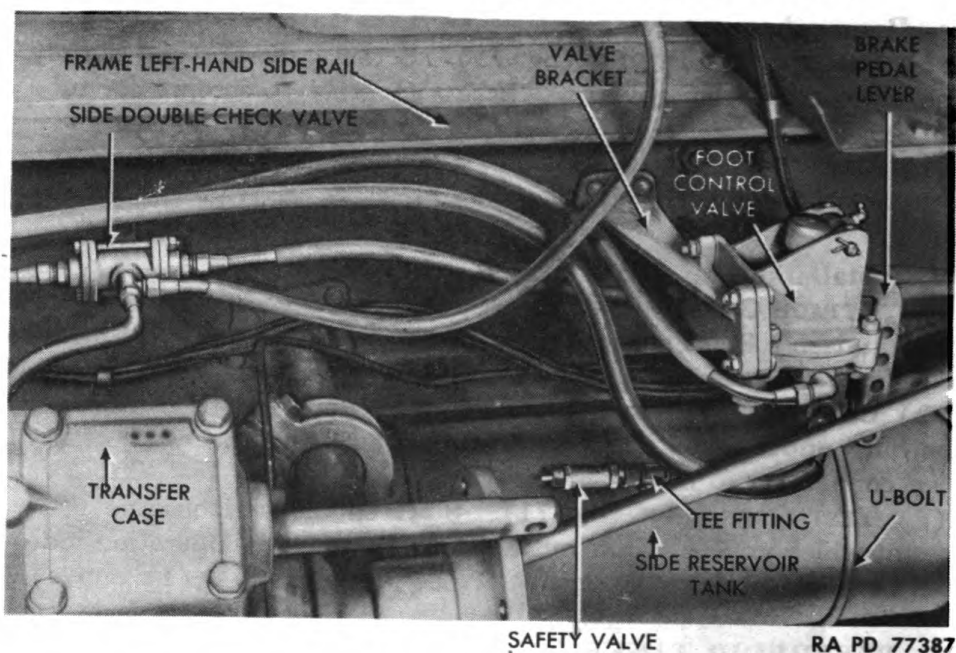
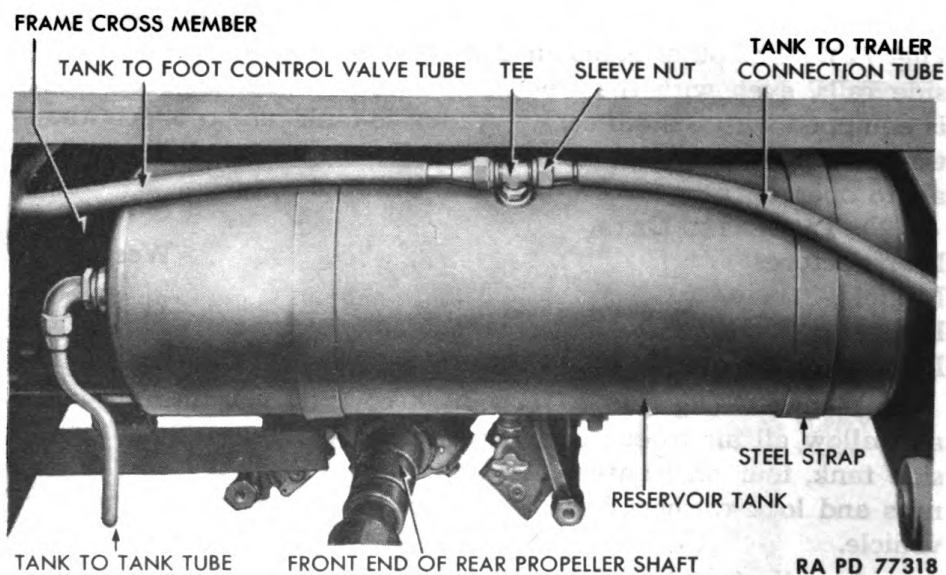

Figure 72 — Air Pressure System Valves and Side Reservoir Tanks
Figure 73 — Rear Air Reservoir Tank Installed
(1) **DESCRIPTION**. Two reservoir tanks are provided. One is located below the left-hand frame side rail adjacent to the fuel tank (fig. 72). The other is installed transversely between the two frame side rails, even with the front of the rear wheels (fig. 73). Each is equipped with a drain cock. A tank-to-tank tube connects the two tanks. Their function is to store a sufficient quantity of compressed air to operate the service brakes and air accessories.
(2) TABULATED DATA.
b. Removal (fig. 73). Open drain cock on lower center of tank and allow all air to escape. Disconnect all tubing (three tubes on side tank, four on transverse tank) from fittings on tank. Remove nuts and lock washers from U-bolts or steel straps. Lift tank from vehicle.
c. Installation (fig. 73). Place tank in position on frame of vehicle. Place U-bolts or steel straps in position around tank and install the lock washers and nuts. Connect tubing (three tubes on side tank, four on transverse tank) to fittings on tank.
(1) **DESCRIPTION** (fig. 72). A safety valve is screwed into the
b. Removal (fig. 72). Open drain cock on bottom of side reservoir tank. Screw safety valve from tee on top of tank.
c. Installation (fig. 72). Screw safety valve into tee on top of side reservoir tank. Close drain valve on bottom of tank.
(1) DESCRIPTION (fig. 72). The foot control valve is attached to the bracket on the inside of the frame left side rail about even with the spare tire. It is connected by a rod to the brake pedal. When the pedal is depressed, the valve admits air to the brake diaphragm chambers to operate the brakes. When the pedal is released, the valve exhausts the pressure from the brake diaphragm chambers to release the brakes.
(1) DISCONNECT AIR LINES (fig. 72). Disconnect all three air tubes from fittings on valve.
(2) DETACH BRAKE PEDAL ROD (fig. 72). Remove cotter pin and clevis pin which attach brake pedal rod to valve. Lift yoke from brake valve lever.
(3) DETACH VALVE FROM BRACKET (fig. 72). Remove four nuts, lock washers, and bolts which attach valve to bracket. Lift valve from bracket.
(1) ATTACH VALVE TO BRACKET (fig. 72). Position valve on bracket. Install the four bolts, lock washers, and nuts which hold valve to bracket.
(2) CONNECT AIR LINES (fig. 72). Connect quick release valve to foot valve tube to fitting on right side of valve. Connect reservoir tank to brake valve tube to fitting on left side of valve. Connect double check valve to foot valve tube to fitting on bottom of valve.
(3) CONNECT BRAKE PEDAL ROD (fig. 72). Place yoke on end of rod in position on middle hole of brake pedal lever. Install clevis pin and cotter pin. Check position of stop brake pedal lever. It should rest against brake valve cover with pedal released. Depress pedal
(1) **DESCRIPTION (figs. 72 and 77).** Two double check valves are used to prevent loss of air pressure through an open exhaust of the brake valves which are not being operated. These valves are secured to the chassis frame.